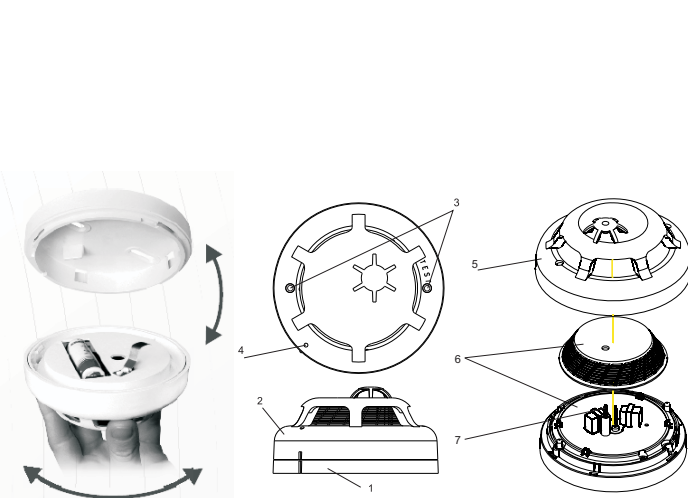

Fig.1
The fire detector consists of a printed circuit board and an optical chamber (pos.6, fig.1) and a thermo sensitive element (pos.7, fig.1), mounted into a plastic box (pos.5, fig.1). The fire detector is also equipped with a micro key, providing control over the removal of the detector from the base and the battery holder. The two LED indicators (pos.3, fig.1), one of them two-color (red and green), and the other – one-color (red), allow 360° visibility and provide information about the operating modes of the detector.
Fire detectors of series VIT are to be used with base type FD100 (pos. 1, fig. 1).
2. Set the fire detector into "Duty" Mode, and its zone into "Test" Mode and from 20 cm distance influence on the detector by means of a heat tester for testing the thermal part, or by means of a smoke tester for the optical part. For a period of time, not more than 20 s after the influence, the detector should enter "Fire Condition" and LEDs on detector's body (pos.3, fig.1) will illuminate. The current temperature, the smoke concentration, the connection quality and the status of the detector can be monitored from the menu of the Fire Control Panel.
3. The panel automatically gives a command to detector for resetting and he must enter "Duty" Mode up to 1 minute. LEDs on the detector's body (pos.3, fig.1) must turn OFF.